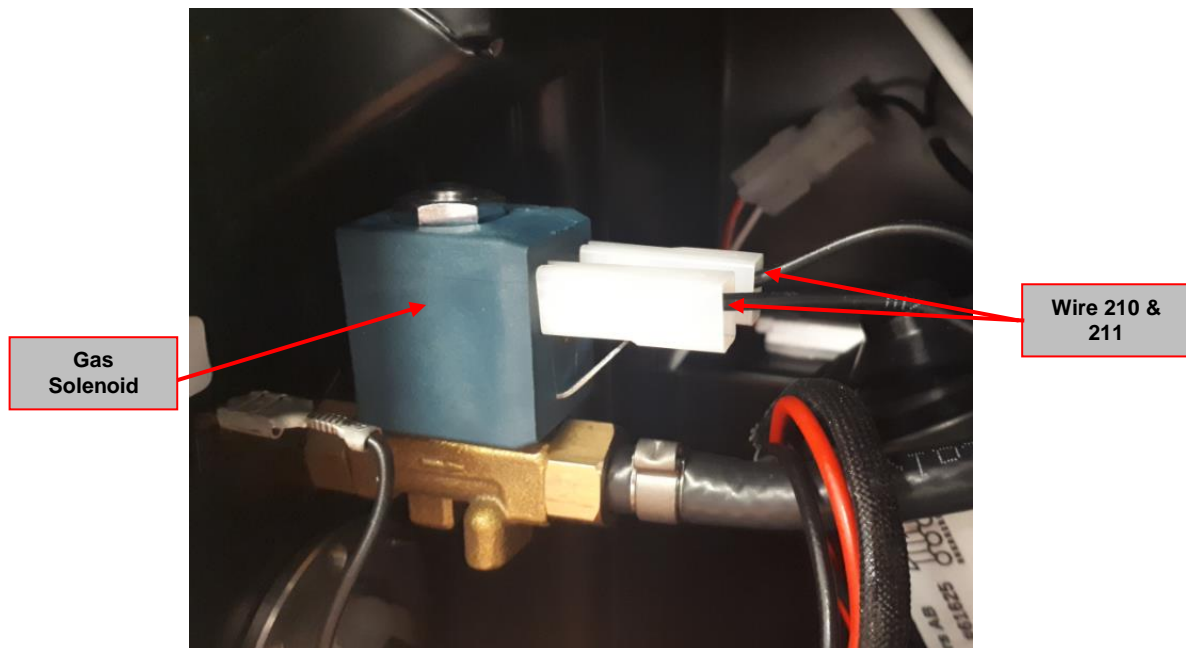

Figure 1 – Gas solenoid location
3. Located the Gas Solenoid. See **Figure 1**.